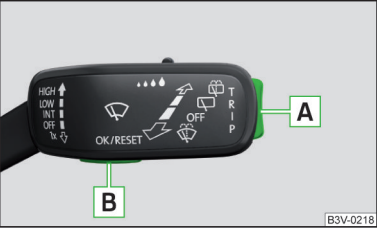
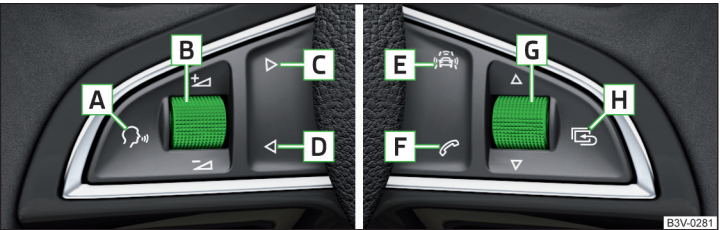

Fig. 30
Fig. 31 Buttons/dials: on the multifunction steering wheel
▶ Press and hold the button **A** on the operating lever » Fig. 30 on page 43.
➤ Press and hold the dial **G** on the multifunction steering wheel » Fig. 31 on page 43.
The menus can be opened using the buttons on the control lever » Fig. 30 on page 43 or on the multi-function steering wheel » Fig. 31 on page 43.
Then turn dial **G** » Fig. 31 on page 43 on the multifunction steering wheel to display the **Last destinations** menu.
- Turn the dial **[G]** » **Fig. 31** on page 43.